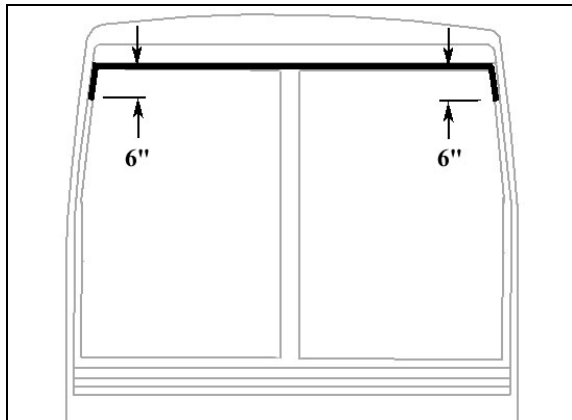

FIGURE 44: APPLICATION OF SIKA 221 BLACK
- At the top of windshield, clean surface between fiberglass and rubber extrusion using Sika 205 (Fig. 44).